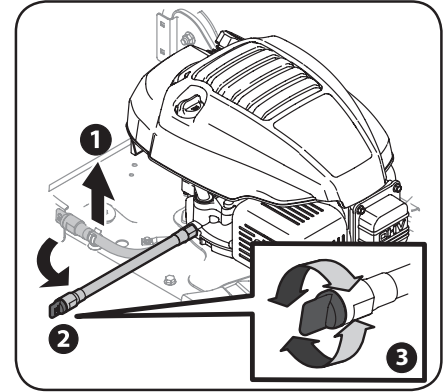
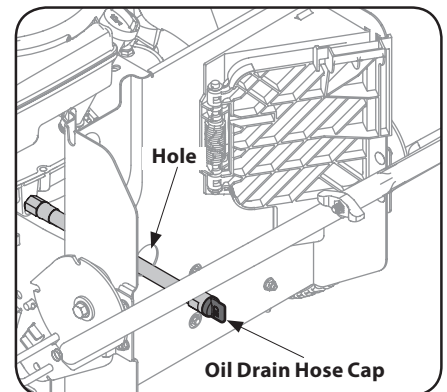

Figure 4-3
Figure 4-4
Each of the front wheel axles and casters is equipped with a grease fitting. See Figure 4-3. Lubricate with a No. 2 multi-purpose grease applied with a grease gun after every 25 hours of mower operation or once a season.
1. Pull up the oil drain hose to release it from the deck. See Figure 4-3 for MTD engine and Figure 4-4 for Briggs & Stratton engine.
NOTE: For units equipped with the Briggs & Stratton engine and bagger, remove the bagger from the mower, which will expose a hole in the back plate of the mower when the bagger door closes to pass the oil drain hose through. See Figure 4-4.
3. Unscrew the cap on the end of the oil drain hose to begin draining oil. See Figure 4-3 inset.